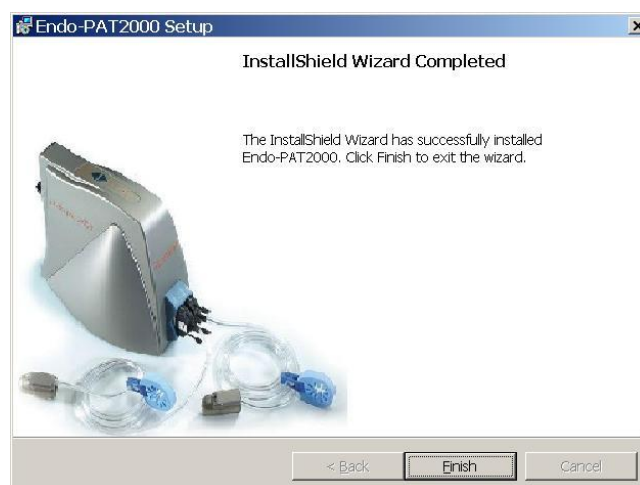

Figure 8 - Completion of installation
7. Press “Finish” when the installation is completed (Figure 8).